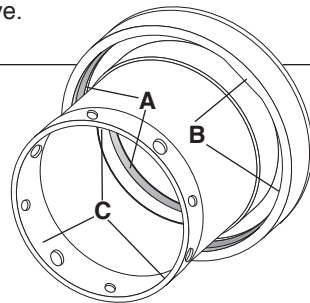

Figure 3
3.3 Sleeve Assembly (1) (Figure 3)